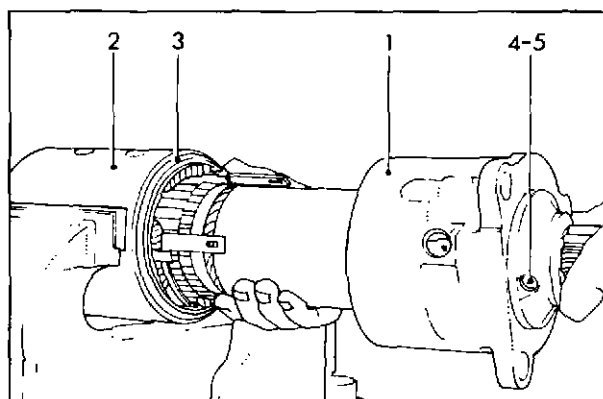
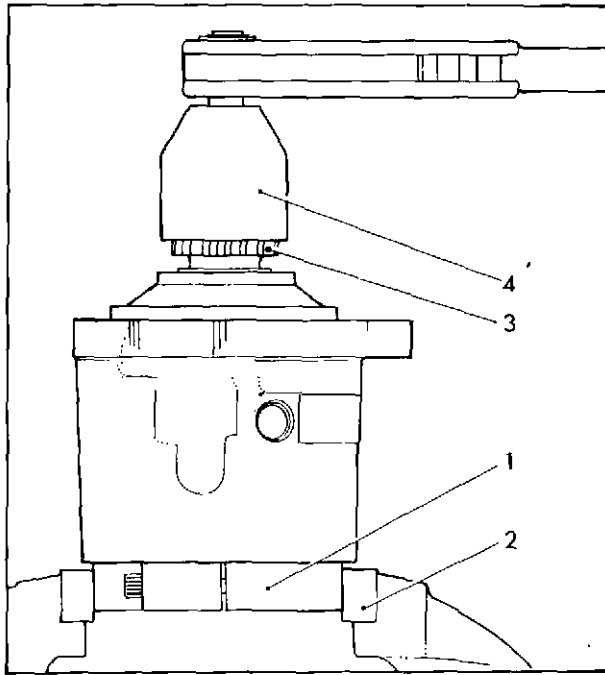

Fig. 4 Removing drive end shield
Fig. 5 Removing pinion sleeve
Drive end shield and pinion sleeve (fig. 4 and fig. 5)
1. Tap the drive end shield (1) fig. 4 away from the yoke, using a soft hammer, and withdraw it complete with armature. Support the unit as shown to avoid damaging the windings and commutator.
2. Remove and discard the sealing ring (3).
3. Using a suitable tool remove the oiler core plug (4) and spring.
7. Slide the pinion sleeve together with the drive end shield off the armature shaft. Retain the eight 5 mm (0.197 inch) steel balls. Place the C.A.V. Tool, No. 6244-50, over the trip plate boss and tighten the clamp screw to secure in position. Invert the complete assembly and clamp the tool (1) fig. 5 in the vice (2).
8. Unscrew the pinion (3) two or three turns using the correct size C.A.V. pinion socket tool.